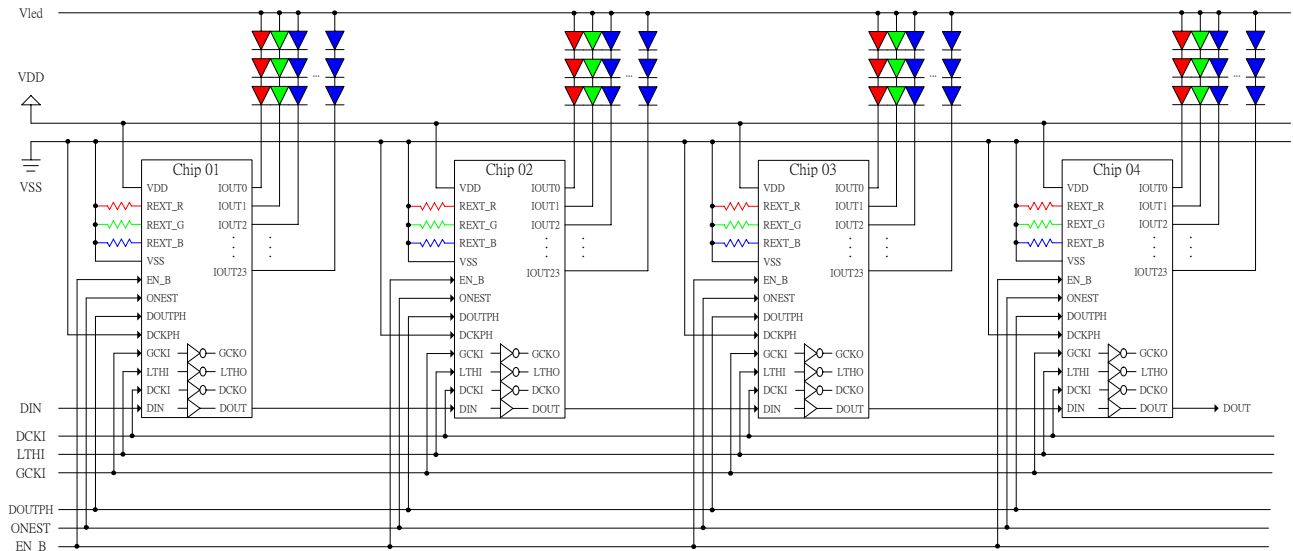

Figure 12. DCK LTH and GCK signals: Global Connected
- * Each DCKPH input pin of all chips should be connected to the same voltage level. Figure 12 shows that all DCKPH pins are connected to VSS.